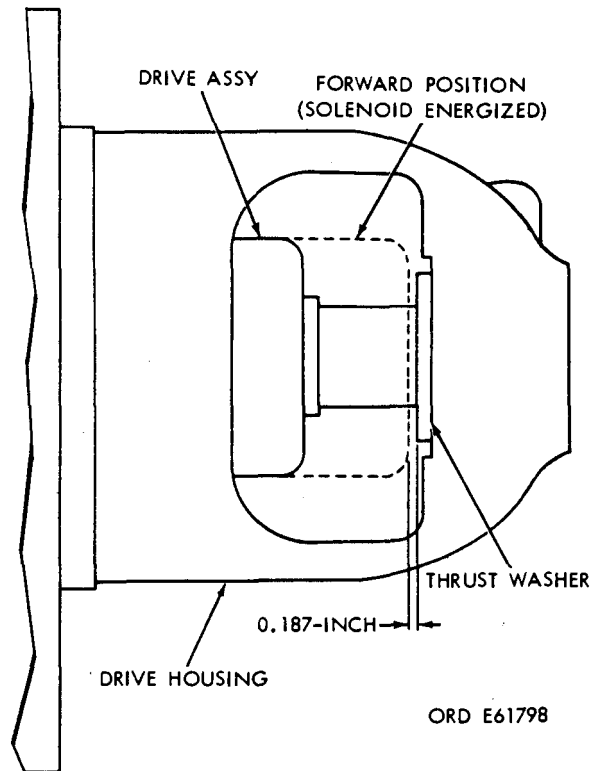

Figure 3-43. Measuring drive clutch pinion clearance.
f. Refer to figure 3-43. Gently push drive assembly back against arm and measure